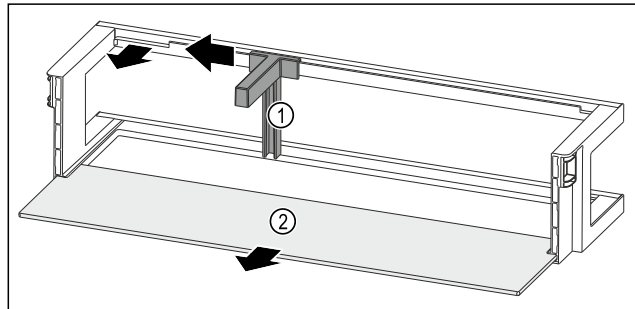

Fig. 171 Door rack with bottle holder and shelf
- ▶ Slide the bottle holder Fig. 171 (1) to the side as far as the recess.
- ▶ Remove the bottle holder Fig. 171 (1).
- ▶ Remove the shelf Fig. 171 (2).